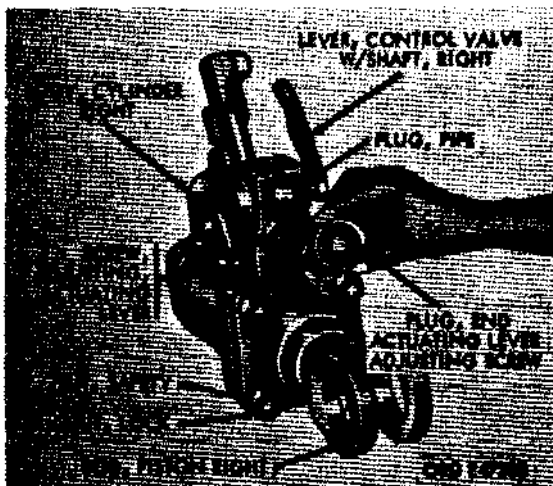
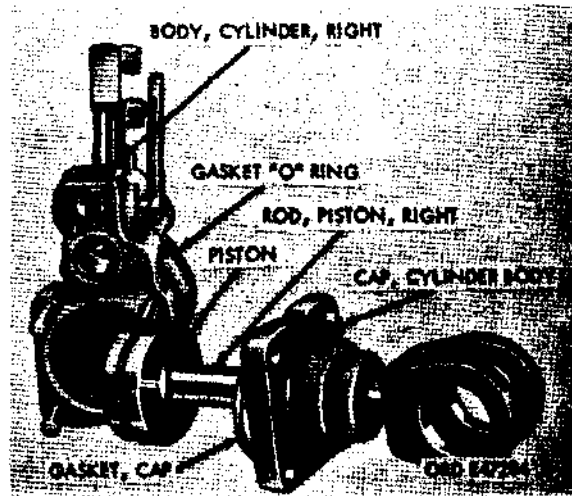

Figure 495. Remove actuating lever adjusting screw end plug
Figure 496. Piston and rod removed from right cylinder body
- (b) Remove actuating - lever - adjusting screw end plug (fig. 495), gasket (GG), and pipe plug (HH) from valve chamber in right cylinder body.
- (c) Use a thin wall socket wrench and remove cap screws (NN) and lockwasher (MM) from valve actuating lever (KK).
(4) Piston and cylinder body cap.
- (a) Remove four locknuts and hex-nuts (fig. 495) from cylinder body cap (C). Remove cylinder body cap, cap gasket, piston, and right piston rod from right cylinder body (fig. 496).
- (b) Remove cotter pin (H), slotted hex-nut (G), and piston (F) from piston rod.
- (c) Insert a tapered tool under piston O-ring gasket (fig. 496) and remove gasket from piston (F).